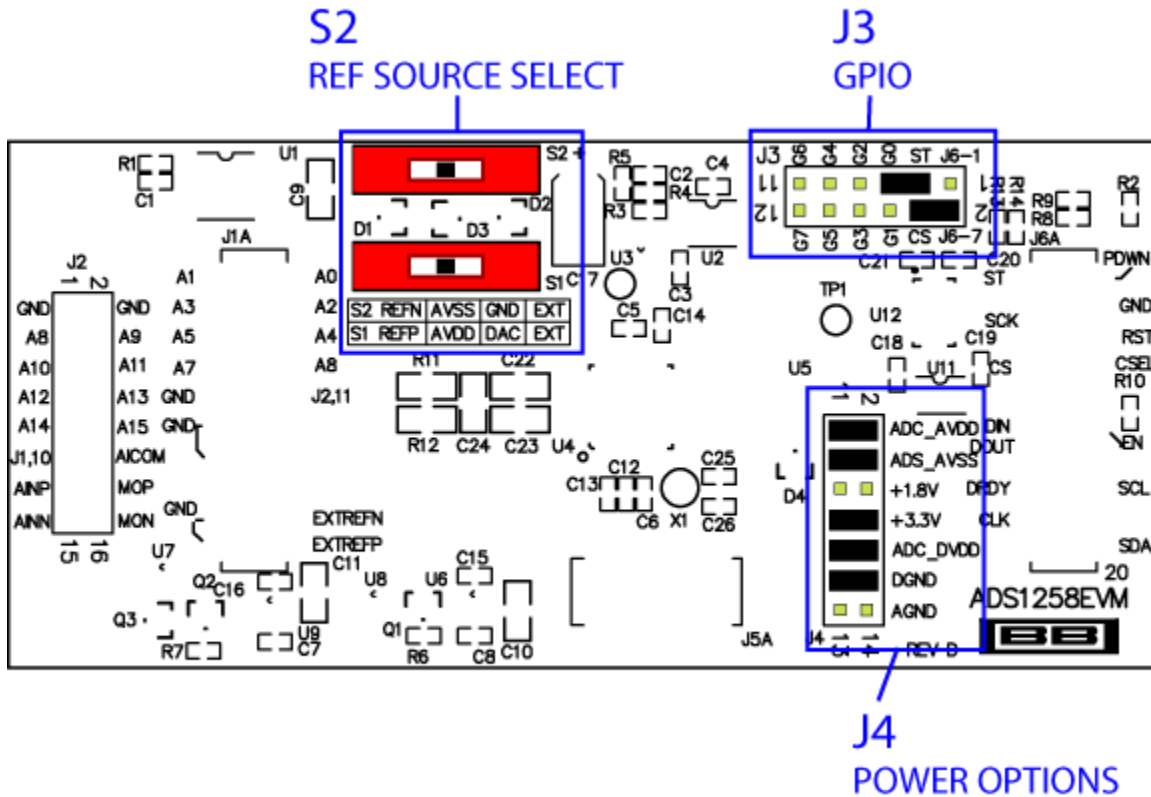

Figure 3. ADS1258EVM Default Jumper Locations
Figure 3 shows the jumpers found on the EVM and the factory default conditions for each one.
- Step 3. Set the jumpers and switches on the ADS1258EVM as illustrated in Figure 3 (note that these settings are the factory-configured settings for the EVM):
- Set jumper block J4 as illustrated in Figure 3.
- Set up jumper block J3 as illustrated in Figure 3.